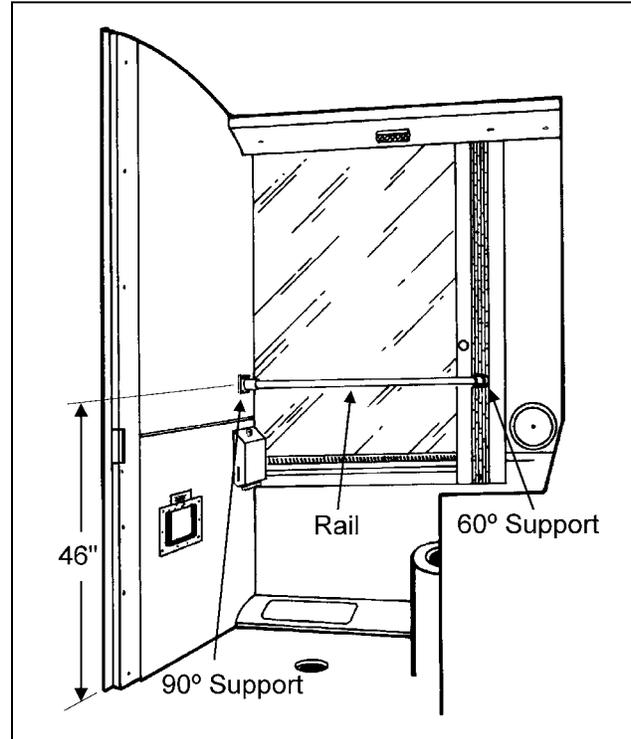

Figure 1
2. Use the 90° rail support as a template and mark the location of the 4 holes on front wall at an approximate height of 46" (1,15 m). See figure 1.
6. Slide the 60° support on rail, thread in set screw on 60° support, then mark the 2 holes on the window post. See figure 1.
4. Fix the panel to the structure, use the 60° support as a template, mark the location of the two holes, then use a 9/64" (3,5 mm) bit and drill holes in panel and gusset. See figure 1.